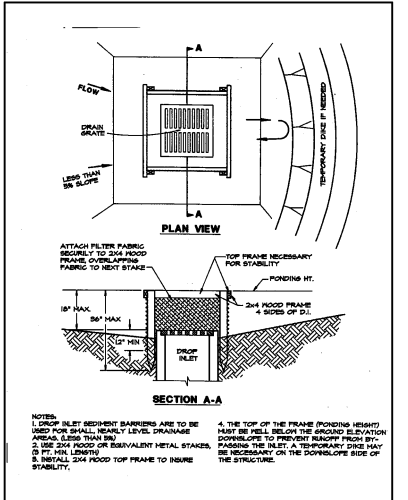

Figure 4.5a. Silt Fence Drop Inlet Sediment Barrier
Where storm drain inlets are to be made operational before permanent stabilization of the disturbed drainage area. Different types of structures are applicable to different conditions (see Figures 4.5a through 4.5j).
- Figures 4.5a through 4.5j provide specific design criteria for each particular inlet protection device.
- Stakes shall be 2 x 4 inches (5 x 10 cm) wood (pressure-treated or equivalent material) with a minimum length of 3 feet (90 cm) (see Figure 4.5a).